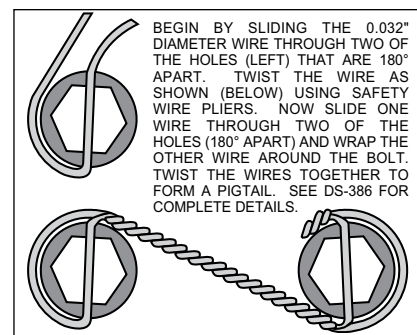

Figure 4. Safety Wire Diagram
- Slide the bracket kit assembly (1) onto the housing flange and then insert the axle assembly through the center hole of the bracket kit assembly (1). Secure using the stock Original Equipment Manufacturer (OEM) bolts and nuts. Stock OEM hex nuts that retain the bracket kit assembly (1) should be on the wheel side of the bracket. Apply red *Loctite*® 271 to the stock OEM bolt threads and torque to OEM specifications. Make sure the bracket kit assembly (1) brake pads are FACING OUTWARD TOWARDS THE WHEEL.
- With the larger I.D. side of the rotor (3) facing away from the hat (2), bolt rotor (3) to hat (2) through the backside of the rotor using washers (4) and bolts (5). Apply red *Loctite*® 271 to the bolt threads and torque to 155 in-lb using a criss-cross pattern. For an added measure of security, the bolts may be safety wired using standard 0.032 inch diameter stainless steel safety wire as shown in Figure 4. Please refer to Wilwood's data sheet DS-386 (available at www.wilwood.com/Pdf/DataSheets/ds386.pdf) for complete safety wire installation instructions.